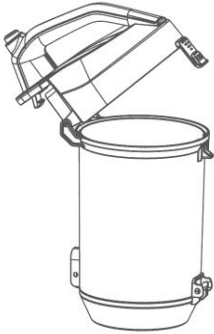

Fig. 8
- The cyclone assembly can also be lifted from the dust container (fig.8) and washed under running water if needed (fig. 9).